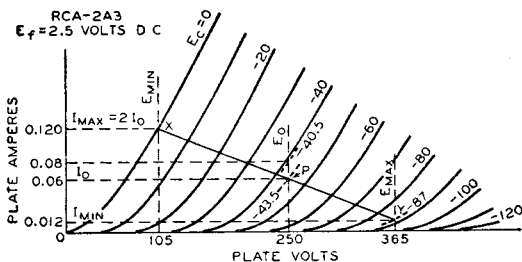

Fig. 20
Calculation of the power output of a triode used as a class A amplifier with either an output transformer or a choke having low dc resistance can be made without serious error from the plate family of curves by assuming a resistance load. The proper plate current, grid bias, optimum load resistance, and the per cent second-harmonic distortion can also be determined. The calculations are made graphically and are illustrated in Fig. 20 for given conditions. The procedure is as follows: (1) Locate the zero-signal bias point P by determining the zero-signal bias E_c from the formula:
Example: Determine the load resistance, power output, and distortion of a triode having an amplification factor of 4.2, a plate-dissipation rating of 15 watts, and plate characteristics curves as shown in Fig. 20. The tube is to be operated at 250 volts on the plate.